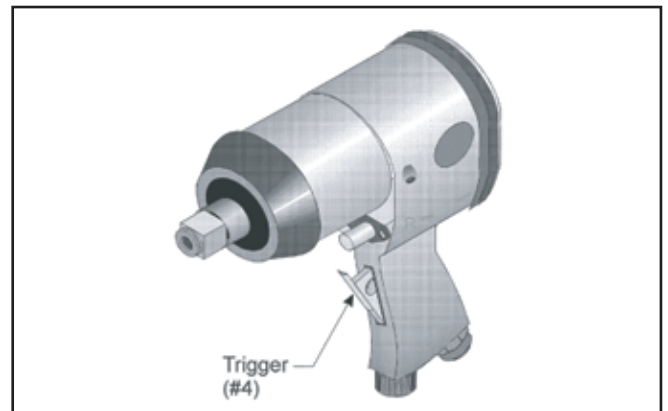

Figure 10- Pressing Trigger
- ,! Press the Trigger (#4) to test the Impact Wrench. The Impact Wrench should spin freely as shown in Figure 10.